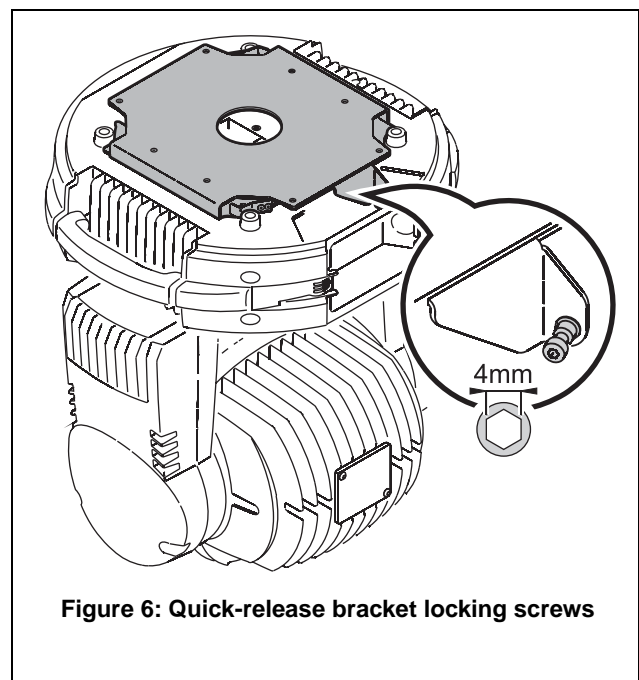

Figure 6: Quick-release bracket locking screws
6. See Figure 6. Tighten the locking screw in the raised flap **A** in the bracket to secure the fixture.